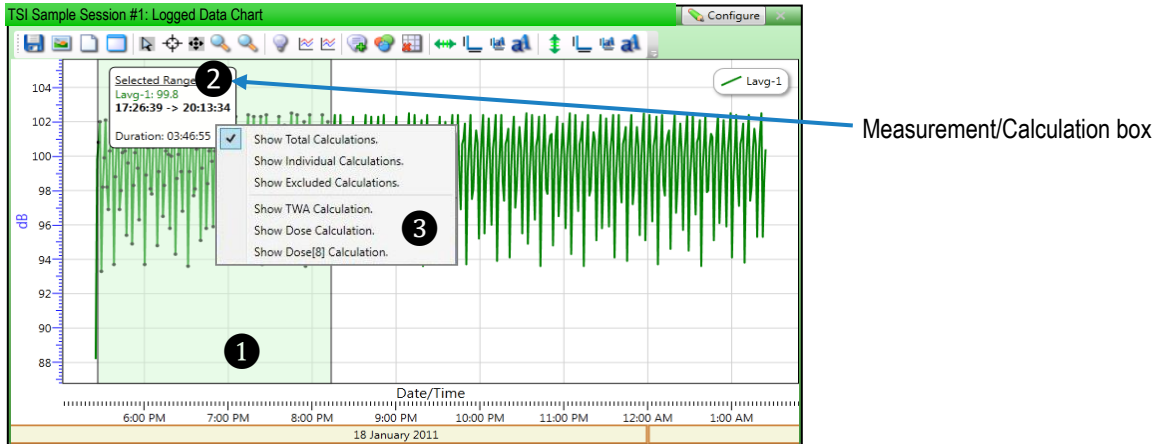

Figure 1-42: Edge and logged data chart
- Shading will appear over the selected data range (see ❶, Figure 1-42).
- A calculation box will appear (see ❷, Figure 1-42) above the chart showing the calculations.
- To change which options and additional calculations are displayed in the calculation box, right-click on the box and a context menu will appear (see ③, Figure 1-42). Select your desired options: **Show Total Calculations** (a combined calculation of all selected ranges), **Show Individual Calculations** (an individual calculation for each selected range), and/or **Show Excluded Calculations** (a combined calculation of all non-selected ranges). Select your desired additional calculations: **Show TWA Calculation**, **Show Dose Calculation**, and/or **Show Dose[8] Calculation**.